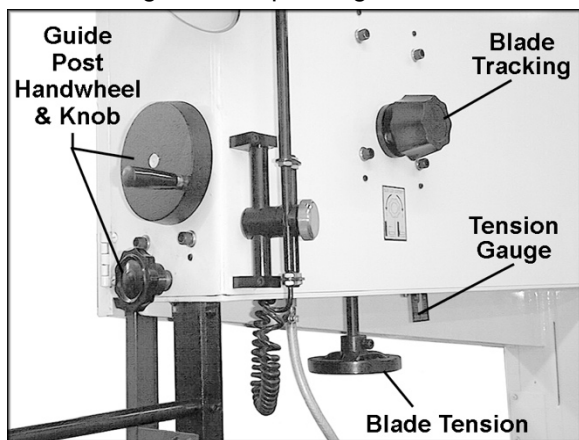

Figure 5
2. Open the upper and lower doors and swing away the guard (Figure 5).
3. Remove the block from the table's front edge (Figure 5).